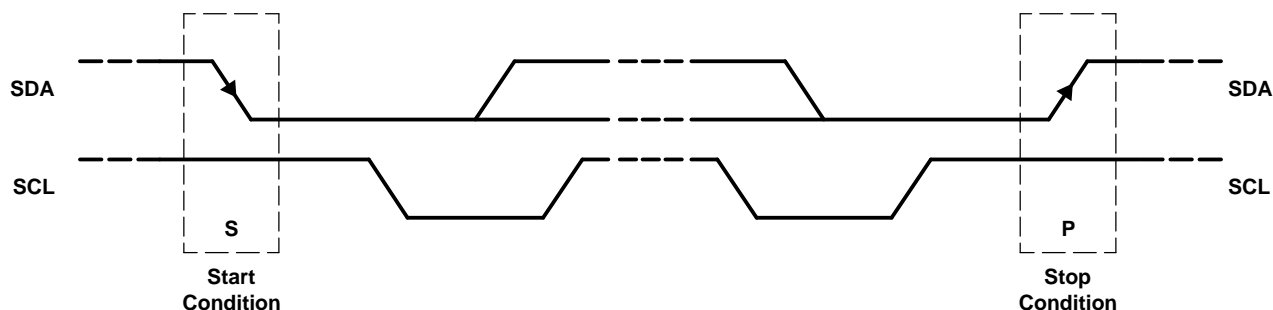

Figure 41. START and STOP Conditions
- The *Master* initiates data transfer by establishing a *Start* condition. The *Start* condition is defined when a high-to-low transition occurs on the SDA line while SCL is high, as shown in Figure 41. The byte following the start condition is the address byte consisting of the 7-bit slave address followed by the \bar{W} bit.